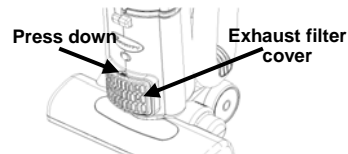

Fig. 28
- Press down on the locking button to remove the exhaust filter cover. (Fig. 28)